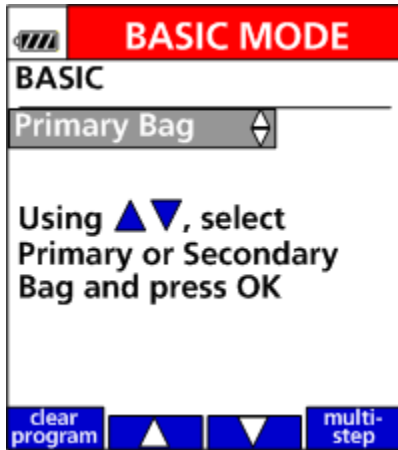

Figure 32. BASIC Mode Bag Selection
5. Use the arrow buttons to indicate whether you are setting up the primary or secondary bag and press OK. (See Figure 32.)